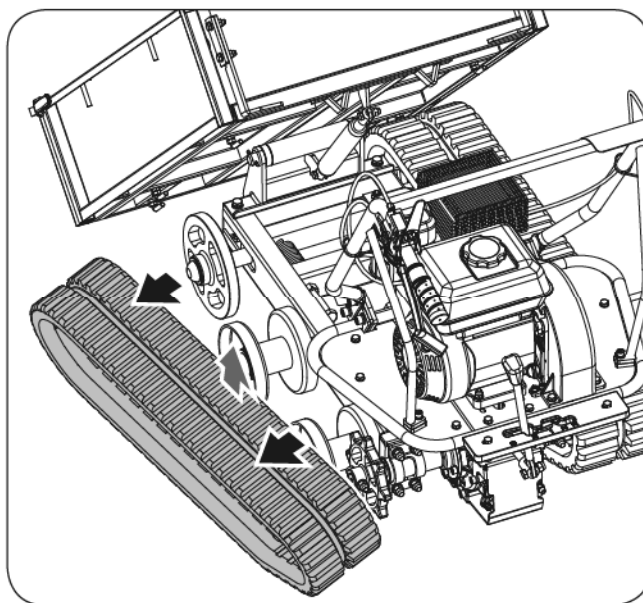

Figure 14c
4. Pull out the whole track. (See **Figure 14c**)